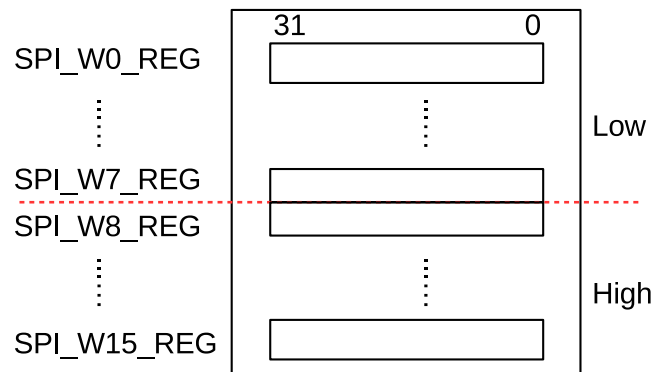

Figure 25-2. Data Buffer Used in CPU-Controlled Transfer
GP-SPI2 provides 16 x 32-bit data buffers, i.e., SPI_W0_REG ~ SPI_W15_REG, see Figure 25-2. CPU-controlled transfer indicates the transfer, in which the data to send is from GP-SPI2 data buffer and the received data is stored to GP-SPI2 data buffer. In such transfer, every single transaction needs to be triggered by the CPU, after its related registers are configured. For such reason, the CPU-controlled transfer is always single transfers
- **SPI Buffer:** `SPI_W0_REG ~ SPI_W15_REG`, see Figure 25-2. The data transferred in CPU-controlled mode is prepared in this buffer.